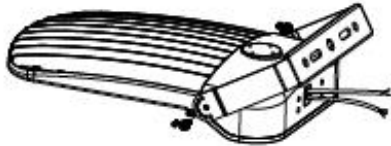

Figure 15
1. Attach the yoke mount on to the fixture by fastening the two large screws (Figure 15).